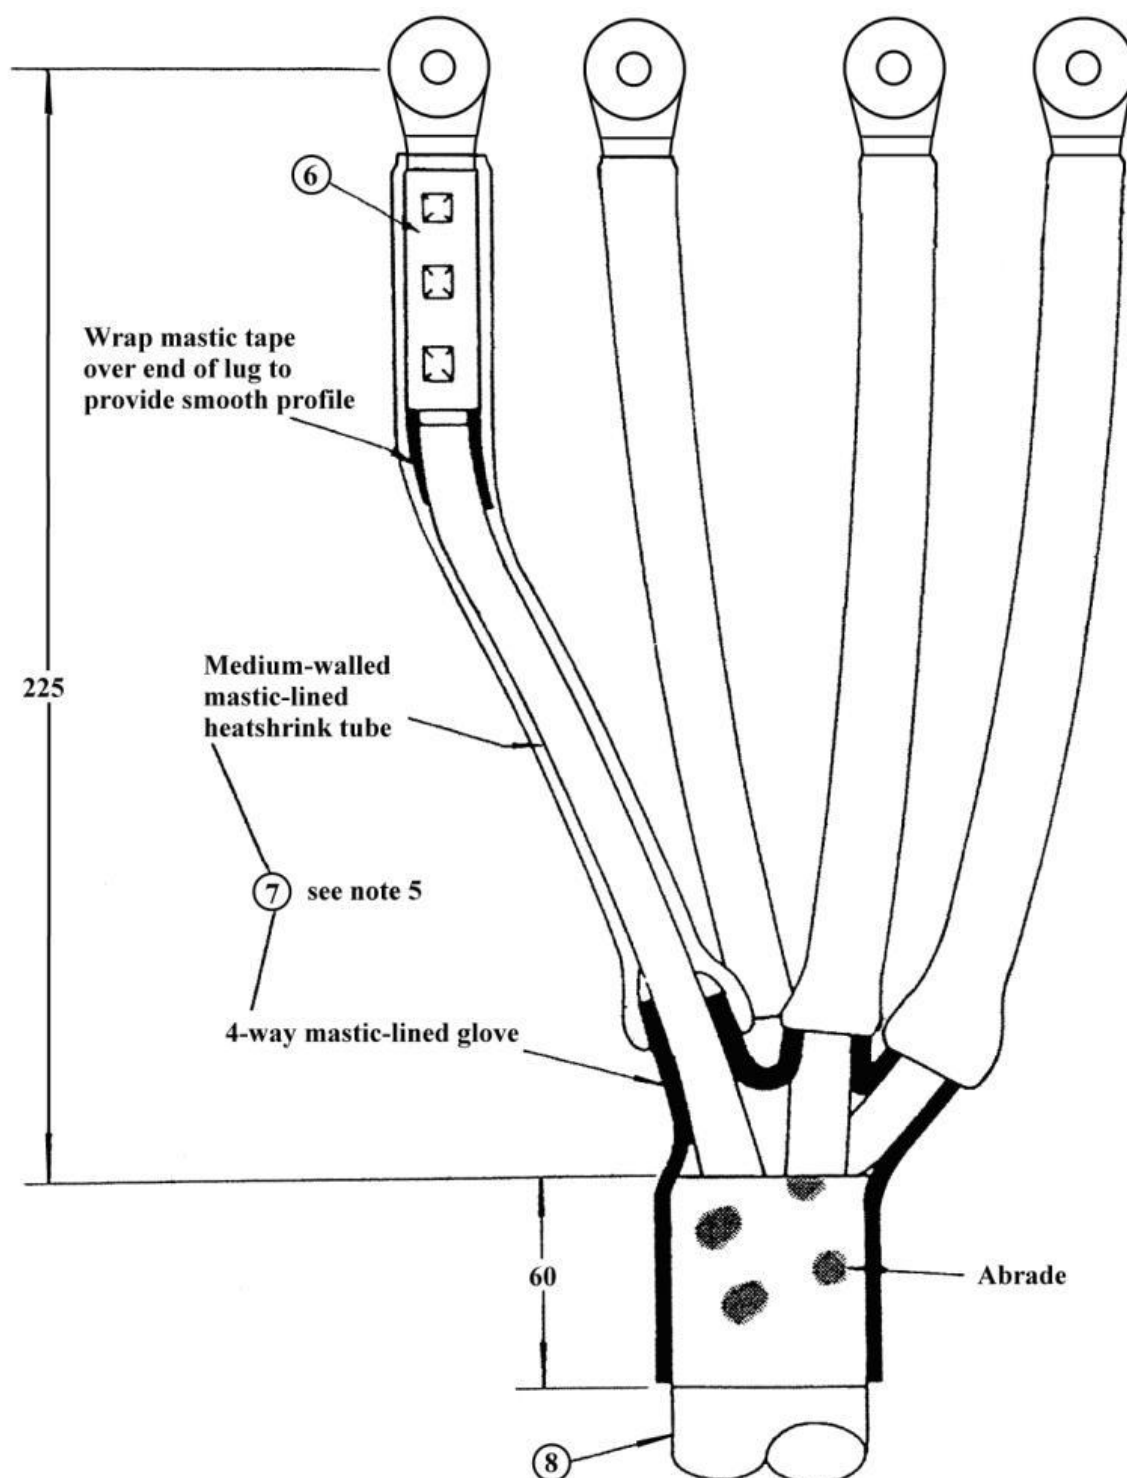

Figure 9.2 – Detail B: Cable Termination Details
1. Cover the bolted connection area with fibreglass tape to keep it free from any adhesives flowing from item 5.
2. The heatshrink components required for the bolted connection are packaged as a single kit. Refer to item 5 for details.
5. The heatshrink components required for the multicore cable termination are packaged as a single kit. Refer to item 7 for details.
6. Abrade the cable sheath to the dimensions shown on Figure 9.2.